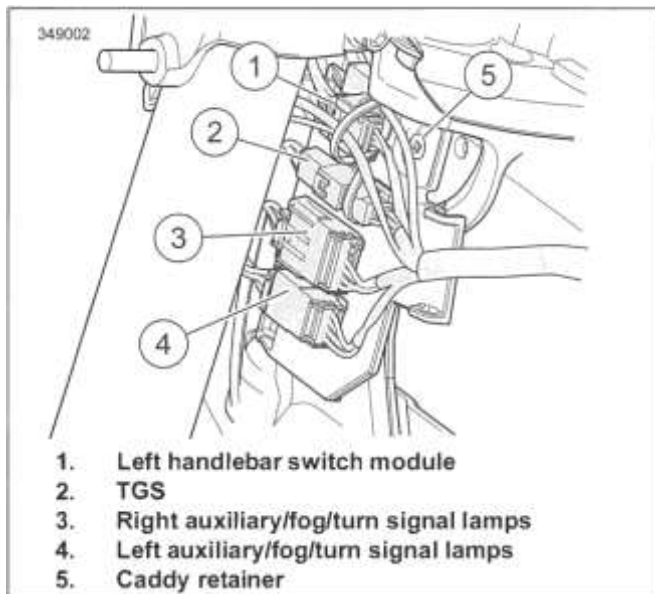

Figure 8-52. Left Side Connectors: Road King Models
- See Figure 8-52. Disconnect both lamp connectors (3, 4) located on left steering head.